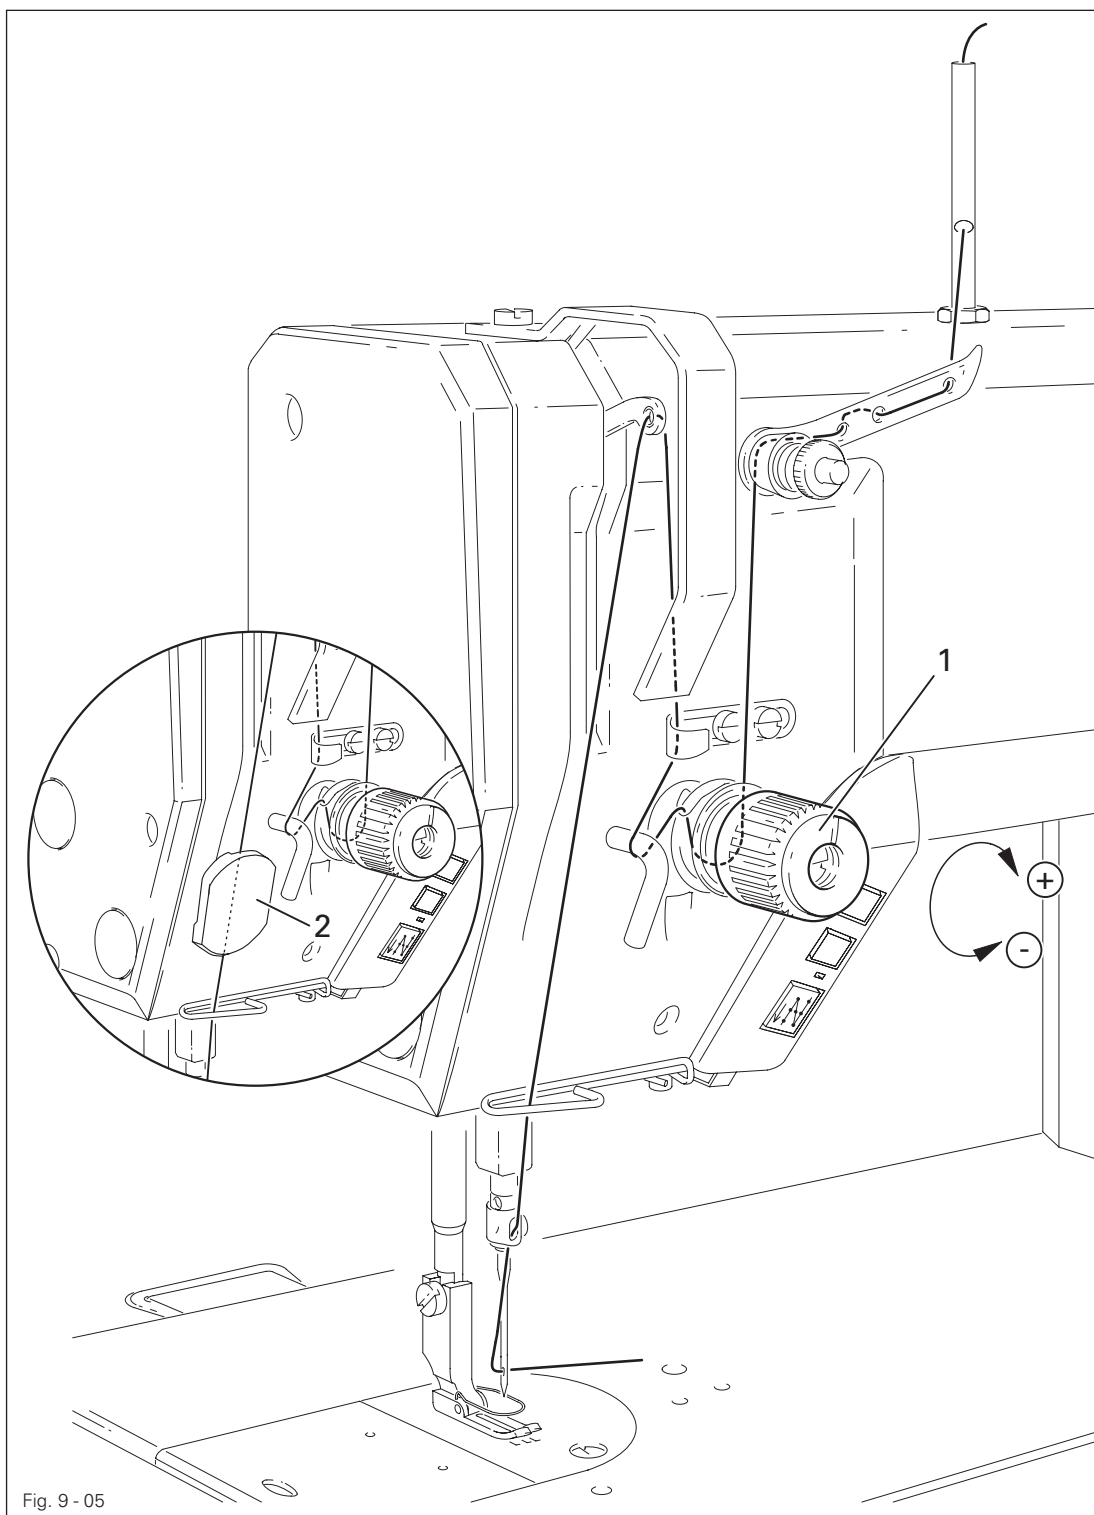

Fig. 9-05
- Thread the machine as shown in Fig. 9-05.
**9.06**      **Adjusting the stitch counter for the bobbin thread control** (only on machines with Quick Motor and P40 (ED) control unit)